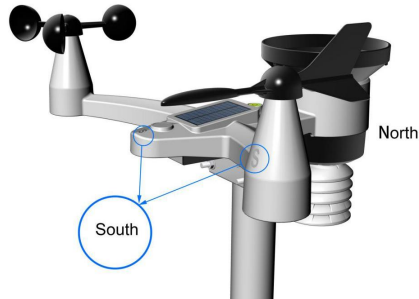

Figure 21
Step 1: There is a “S” indicator on the wind vane that indicates South, as shown in Figure 21. Check the wind directions with compass and Align this “S” marker in the direction of south.